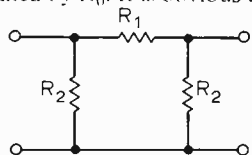

Fig. 1. Single section of attenuator.
The basis of an attenuator is the section (which is connected between adjacent switch contacts). There are two types, the π and the T. Here only the π type will be treated, but any π section can be converted into a T section by applying the star-delta theorem to its elements. One π -type section is shown in Fig. 1. It is designed so that the resistance measured between the input (output) terminals is R_0 when the output (input) terminals are connected to a resistance R_0 . When this is done
When an attenuator section such as that of Fig. 1 has values calculated for a desired attenuation $20 \log_{10} x$ with a termination R_0 , but is used instead with a termination Z_0 , which is not necessarily equal to R_0 , then the impedance at the other end is, from (1),